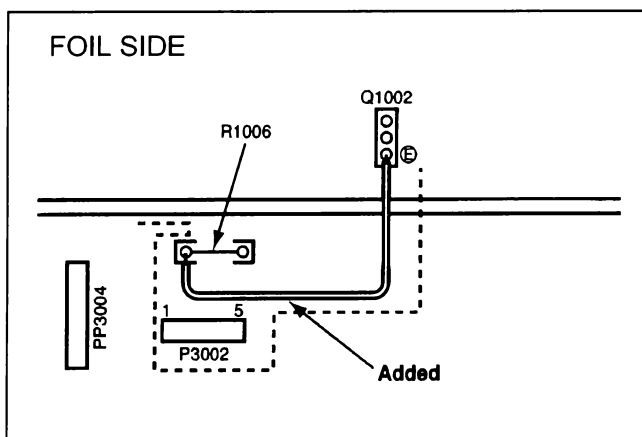

Figure 1
1. Between the Emitter of Q1002 and R1006. (Refer to Figure 1)